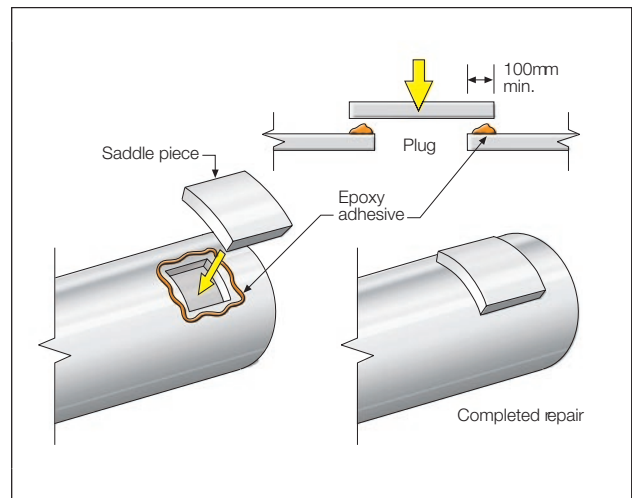

Figure 60 - Repair section step 2
7. Position the saddle piece over the damage and ensure there is a seal formed by the epoxy, see Figure 60.